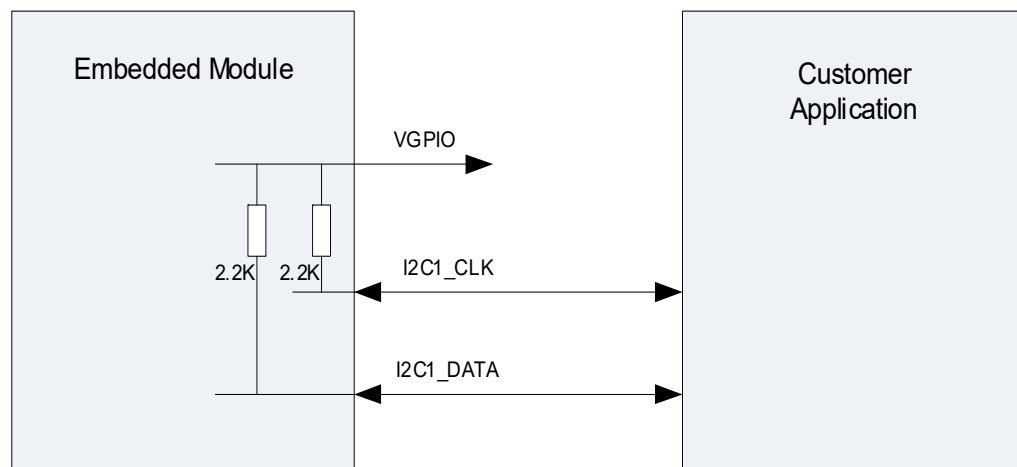

Figure 4-4: Example of I²C Bus Application
- I²C signals are implemented internally as open drain outputs (per the I²C specification) with 2.2 k Ω pull-up resistors to VGPIO (see Figure 4-4).